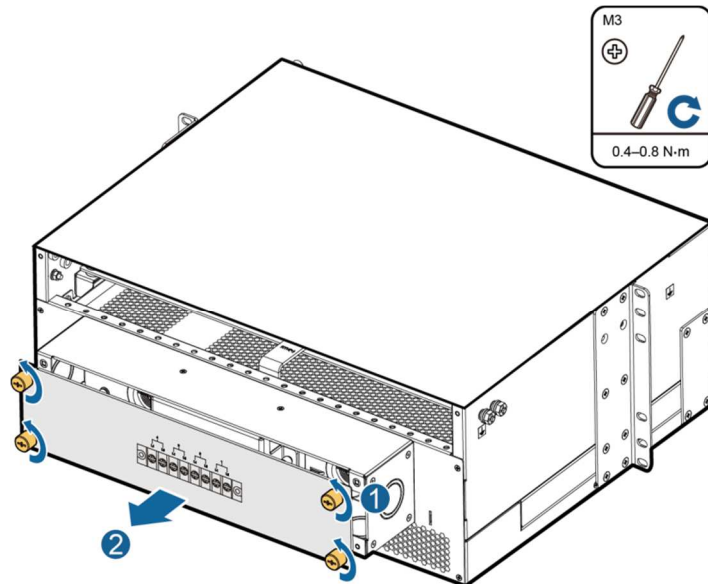

Figure 25 – Removing the Rear Cover from the DCPS
Step 1 Remove the rear cover from the DCPS, as shown in Figure 25.